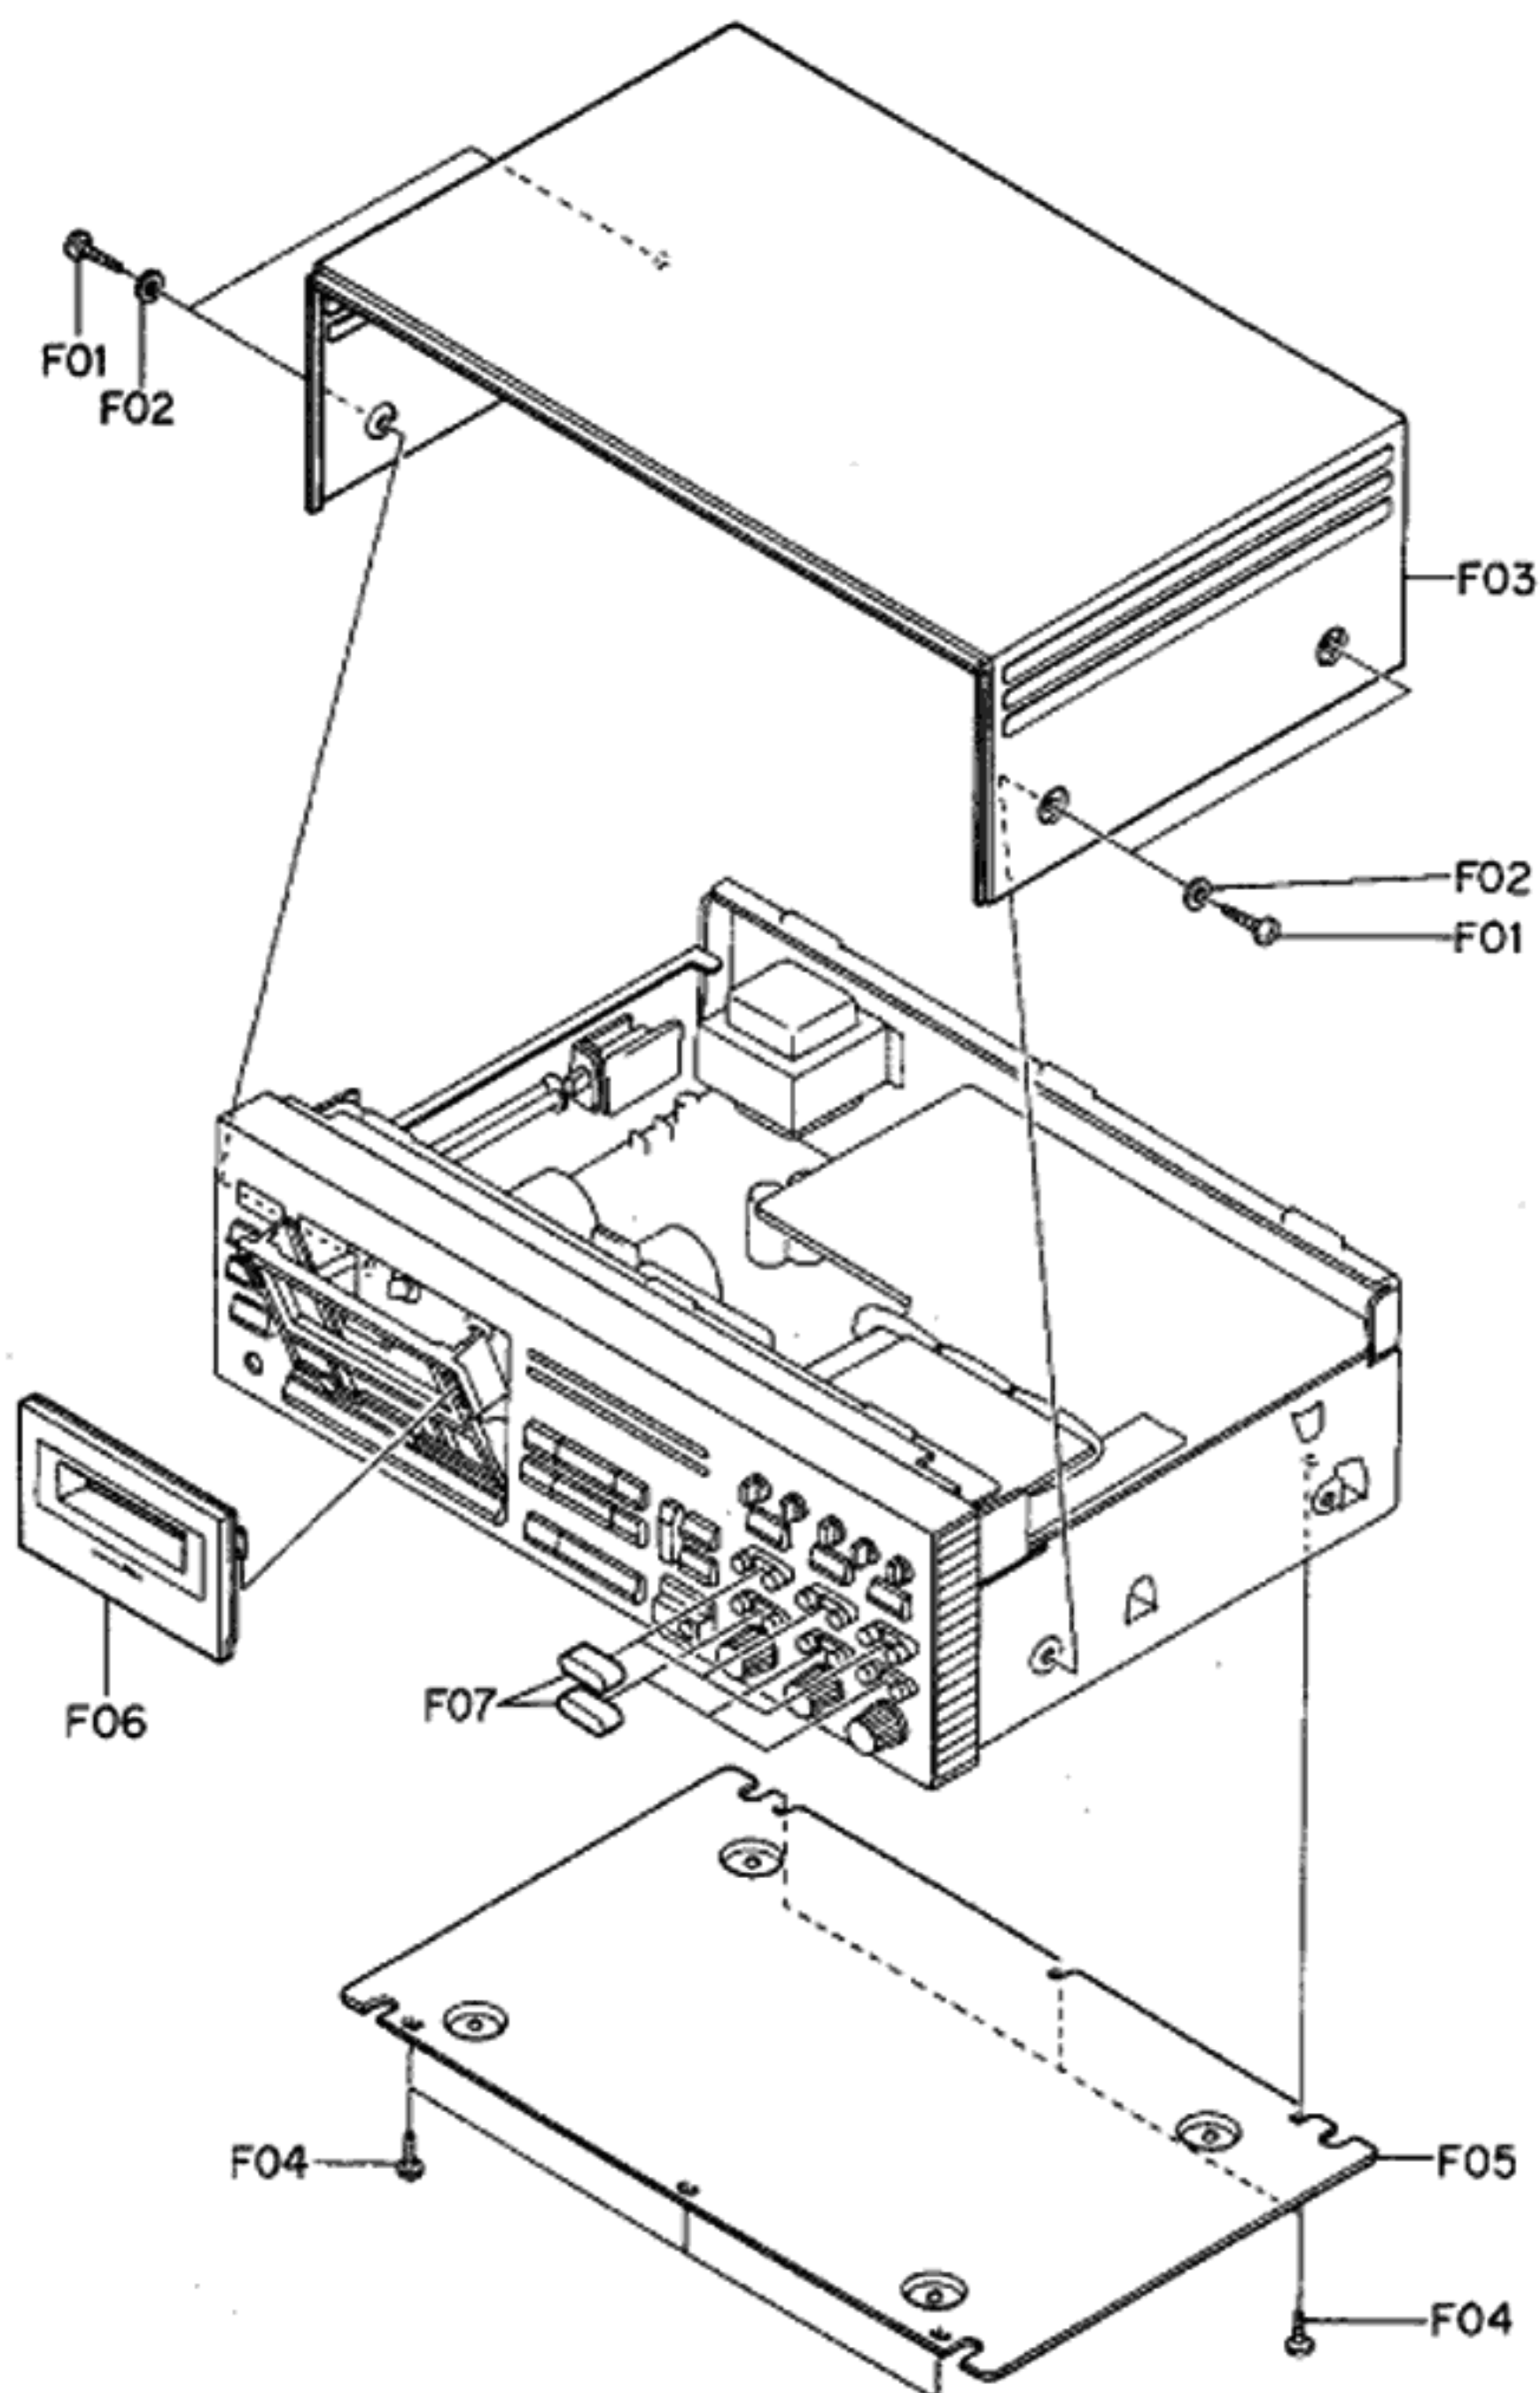

Fig. 2.1
Refer to Fig. 2.1.
- (1) Refer to Fig. 2.1. Remove Top Cover Ass'y and Bottom Cover Ass'y referring to items 2.1 and 2.2.
- (2) Refer to bottom view (A). Remove F01, then turn F02 (Dolby NR P.C.B. Ass'y) over as an arrow head.
- (3) Pull out F03 (Function Switch Knob), F04 (Cal. Volume Knob) and F05 (Volume Knob).
- (4) Remove F06 and F07 (Azimuth Wire), then disassemble F08 (Front Panel Ass'y including 11 connectors).
- (2) Remove 6 connectors and the wires connected by wrapping from F03 (Logic & Power P.C.B. Ass'y).
- (3) Remove F01 and F02, then disassemble F03 (Logic & Power P.C.B. Ass'y).
- (2) Remove the wires connected by wrapping from F05 (Dolby NR P.C.B. Ass'y).
- (3) Remove F04, then disassemble F05 (Dolby NR P.C.B. Ass'y) by releasing the self-interlocking pin of P.C.B. Supporters.
- (2) Remove F01 and F02, then disassemble F03 (Rear Panel Ass'y).
- (3) Remove F04 and F05, then disassemble F06 (Power Transformer).